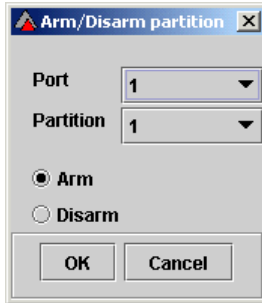

Figure 10 : Arm/Disarm Partition dialog
- [3] The Arm/Disarm Partition dialog shown in Figure 10 will be displayed.